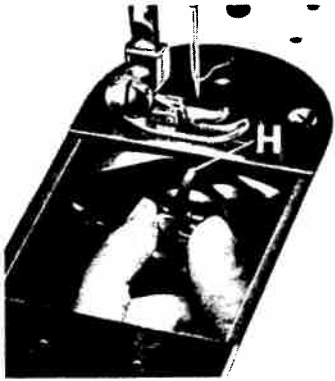

Fig. 4
3. Pull out the bobbin case with thumb and forefinger, as shown in Fig. 4.
7. With the needle bar raised, push the bobbin case on the center stud in the shuttle and turn it until its position finger H is opposite the position slot (Fig. 4).